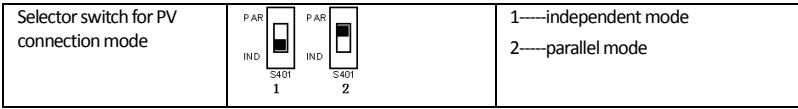

Figure 2.22 – PV Connection Mode Selector Switch Location
4. Set the selector switch on the LCD board (see Figure 2.22) to parallel mode.